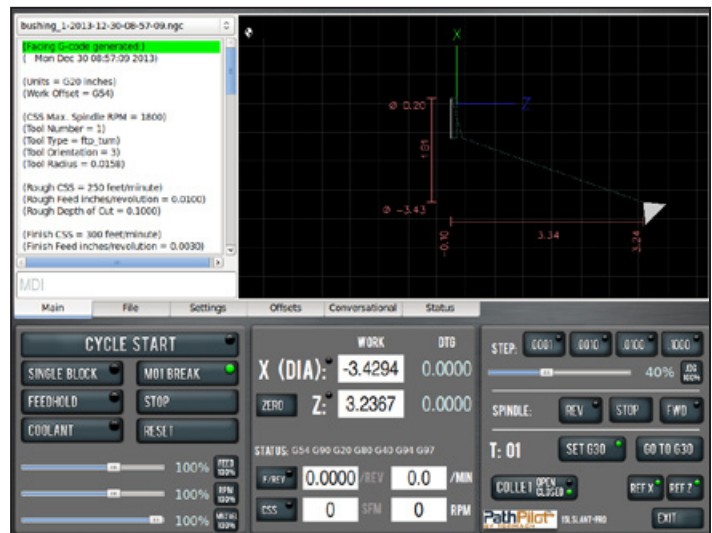

Figure 4.21
4. The changes to your file are loaded into the control, and you should see a tool path that looks something like **Figure 4.21**.